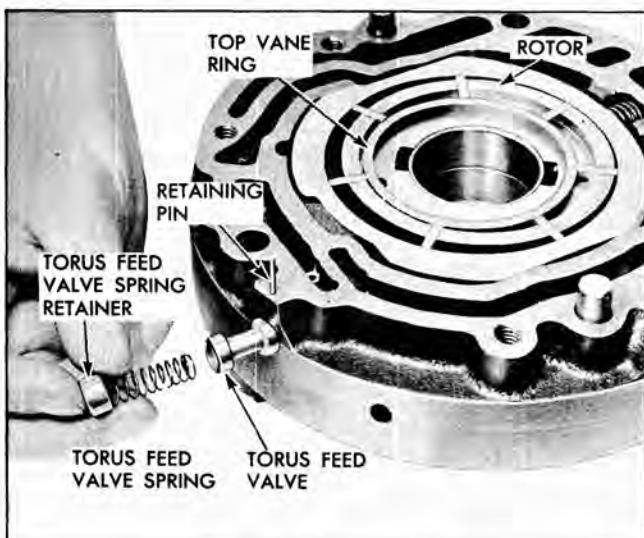

Fig. 101 Removing Torus Feed Valve
3. Using needle nose pliers, remove pin which holds torus feed valve retainer (place finger against retainer to prevent it from flying out). Remove retainer, spring and torus feed valve (Fig. 101). NOTE: If valve tends to stick, it may be removed after slide is removed.